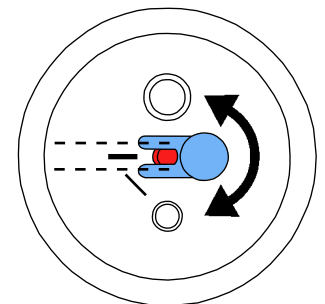

Fig. 12
- The dosing nozzle must be adjusted with blasting tanks of 25 - 70 µm (Fig. 12)!